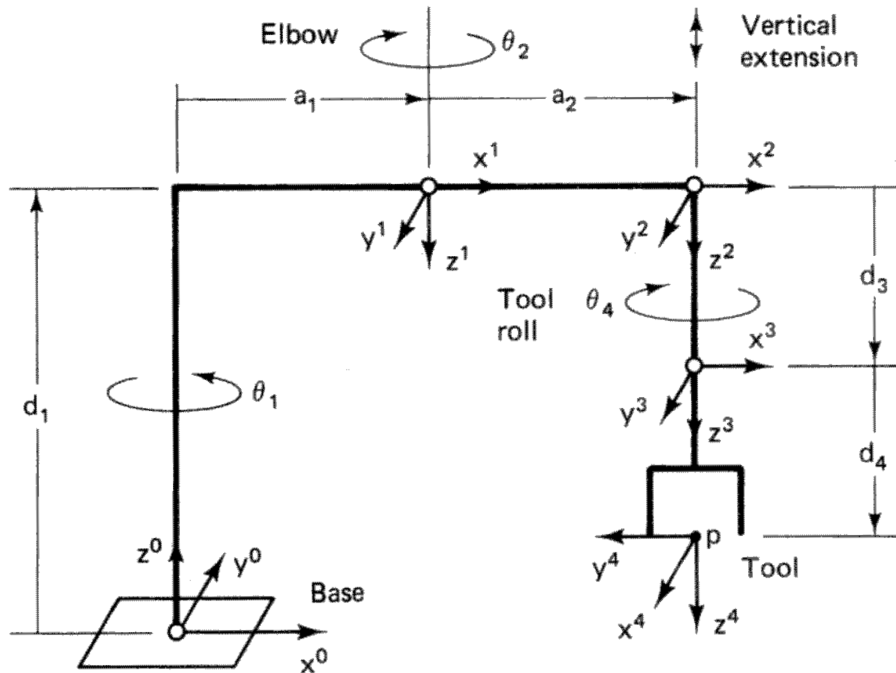

Figure 5: SCARA manipulator (Adept One).
Task 2.5 (7 points) DH-Parameter SCARA: An important type of manipulator is the SCARA type, a manipulator with four vertically aligned joint axes. Figure 5 shows the joint coordinate frames of such a manipulator (Adept One).
2.5.1 (2 points): Verify the kinematic parameters of the manipulator shown in Figure 5 according to the Denavit-Hartenberg convention. (For each rule and requirement of the DH convention, explain where it has been used and why.)